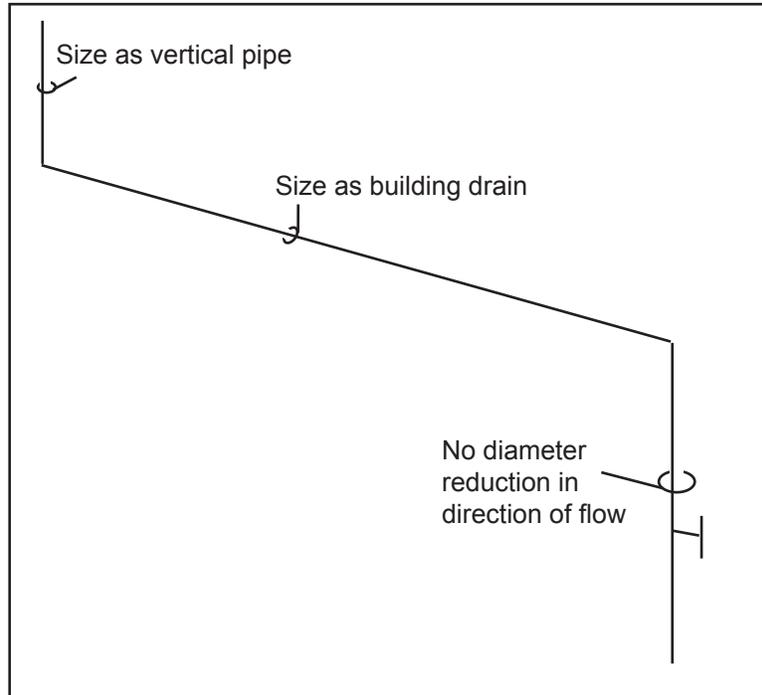

Figure 16. Minimum diameter for horizontal stack offsets.
3. Size the stack below the offset as a stack, but not less than the size of the diameter of the offset (see Figure 16).